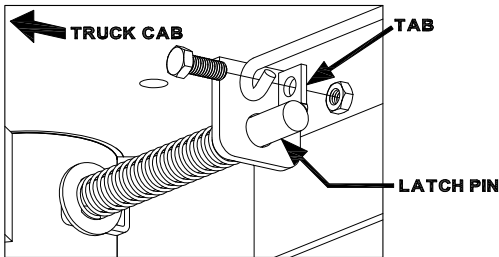

FIGURE F2: Handle installation
2. Attach the handle to the latch pin as shown with the handle on the “cab side” of the square tab welded to the pin. The head of the bolt must be on the handle side, and the lock nut must be on the tab side. The tab is welded to the pin in an offset position so that the handle will be lined up over the center of the pin, See Figure F2 and F3.